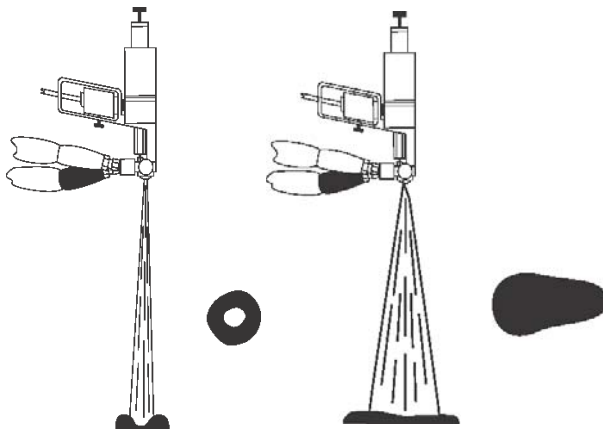

FIG. 12: Opening Spray Pattern
tern opens as adjustment is made (FIG. 12).
- c. If pattern splits or has hollow center, even with the adjustment screw at minimum number of turns from point of valving, material temperature is too high. Refer to FIG. 12.